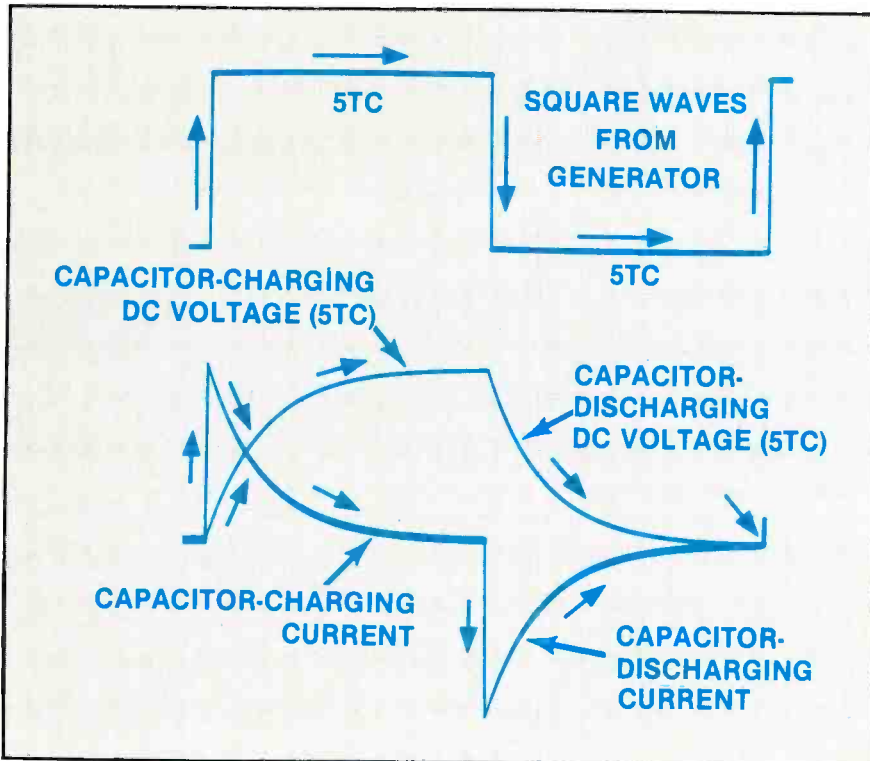

Figure 4. Voltage and current curves during five charging time constants and five discharging time constants are shown. Arrows show movement of the scope beam.
Figure 4 shows the relationships between voltage and current over 10 time constants. Repetition rate of the square waves and the precise time constant were chosen
Figure 5. Six lowpass filters show how square waves change as the time constant is increased in steps. Remember, these waveforms will resemble the voltage charging/discharging curves of Figure 4. (A) A 0.0005µF capacitance have a 10µs time constant and barely rounded two corners (marked with arrows). Watch these corners as the time constant is increased. 10µs with 200Hz square waves gave the same waveform as 500µs would at 4Hz. Also, the same waveshape can be obtained at 2000Hz with a 1µs time constant. (B) Increasing to 0.0028µF and 56µs time constant rounded the two corners even more. The same waveshape can be obtained with 500µs at 22.4Hz, and a time constant of 5.6µs would give the same waveshape at 2000Hz repetition rate. (C) With the time constant at 245µs, the curve begins to resemble the classic textbook time-constant curve of Figure 2. A rep rate of 98Hz would give the same waveform with 500µs TC. At 2000Hz, 24.5µs is needed for an identical waveshape. (D) A 500µs time constant provides 10 time constants (totaling 5000µs) and forms the classic voltage charging/discharging curves that are used in most explanations about time constants. No loss of output waveform height occurred in these four examples because full voltage was attained before the end of the positive peak. The same 2000Hz waveshape can be obtained with a 50µs time constant. (E) A long 1340µs time constant slowed the rise of charging voltage until the positive peak had passed, thus the height is reduced to 72% of the input amplitude. The same waveshape can be obtained at 536Hz with a 500µs time constant, or at 2000Hz with a 134µs time constant. (F) Increasing the time constant to 4240µs produced a triangular waveshape having almost perfectly straight lines. The actual amplitude relative to the input signal is shown by the center trace, while the lower trace has had the amplitude increased by increasing the scope gain. Such strong filtering also produces huge phase shifts when sine waves are used to replace square waves. A rep rate of 1696Hz produces the same waveshape with a 500µs time constant. Also, 2000Hz with 42µs gives an identical waveshape. (G) The lowpass-filter schematic is similar to the test setup in Figure 1 with square waves used instead of a dcV source. (H) These are actual frequency response readings of the six TC filters. They show the areas where maximum phase shifts occur (attenuation of 1dB or more).